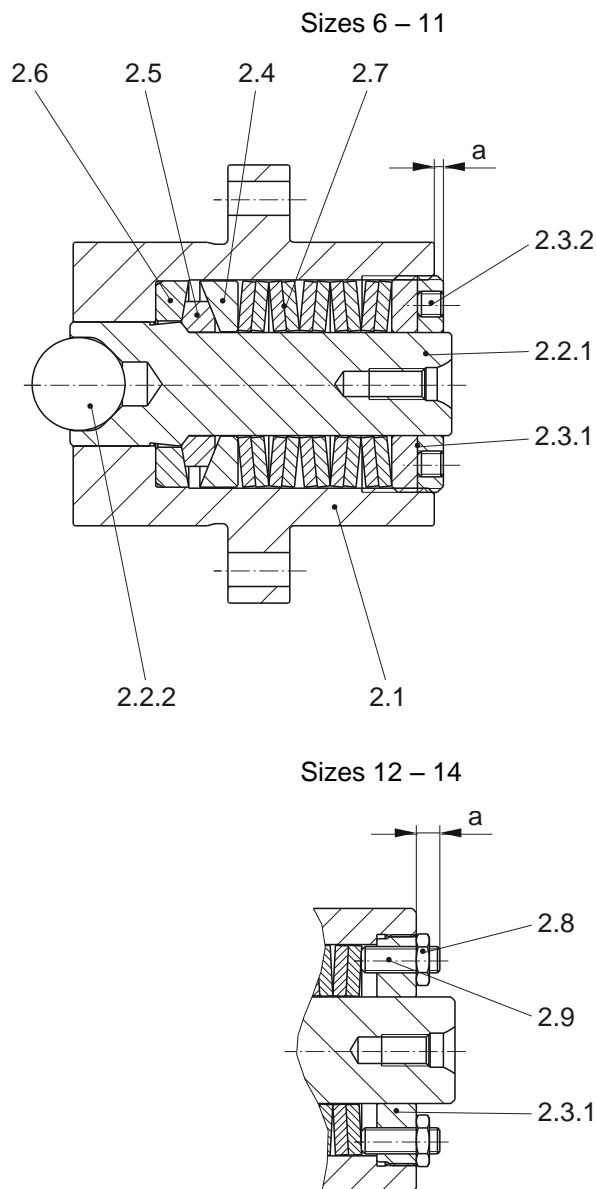

Fig. 10
Torque Adjustment (Fig. 10)
4. Set all overload elements (2) by turning the adjusting nut (2.3.1) or by turning the set screws (2.9) to the dimension "a" found in the Adjustment Diagram (Fig. 10).